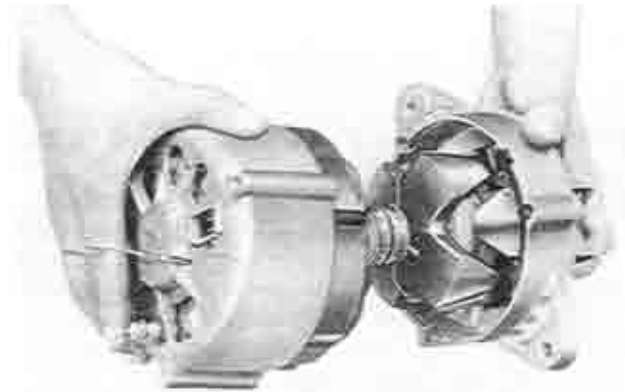

Fig. 5-16 Installing of rotor assembly
1. When installing the rotor assembly to the rear housing and stator assembly, hold the brushes in position by inserting a piece of stiff wire into the hole of the brush through the rear housing as shown in Fig. 5-16.